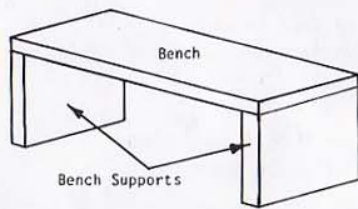

Figure 10
12. Locate **Bench Supports and Benches** (AH-4). Assemble as in Figure 10 and glue in place. See label.